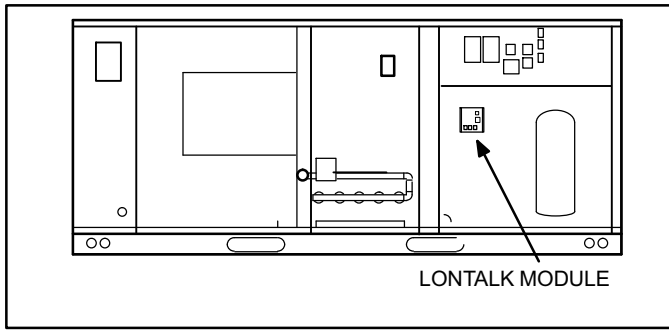

Figure 3. LonTalk Module (036-060 units, A box)
- A Box (036-060 units)**—Position the LonTalk module in the compressor section as shown in figure 3. Secure with four #6 screws.